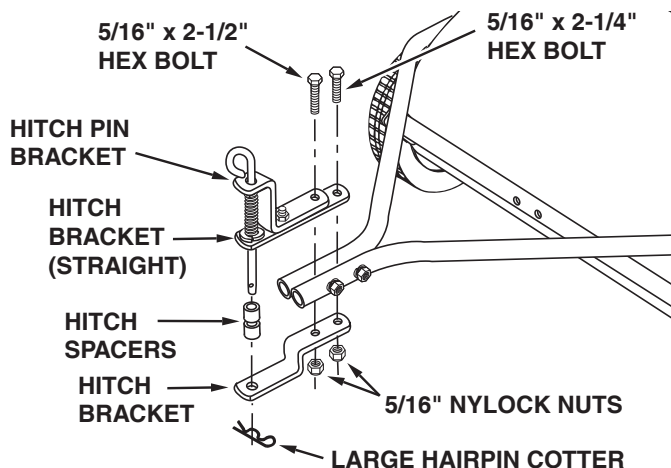

FIGURE 5
12. Place the bent hitch bracket underneath the hitch tubes and place the straight hitch bracket with hitch pin on top of the hitch tubes. Fasten together using a 5/16" x 2-1/2" hex bolt (front), a 5/16" x 2-1/4" hex bolt (rear) and two 5/16" hex lock nuts as shown in figure 5. The bolts should straddle the front hitch tube bolt. **Do not tighten yet.**
13. Assemble the two hitch spacers onto the hitch pin and secure the pin with the large hairpin cotter. See figure 5.